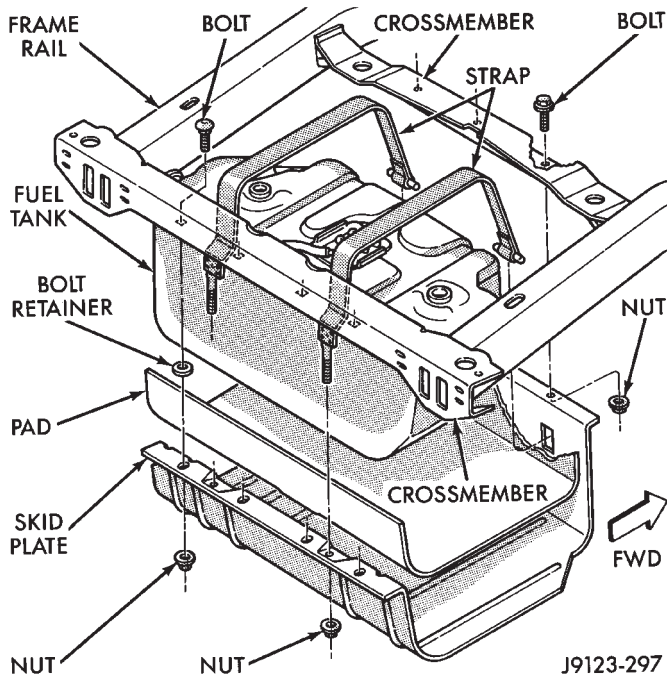

Fig. 6 Fuel Tank Skid Plate
- (1) Position a support under the fuel tank skid plate.
- (2) Remove the nuts that attach the skid plate to the straps and to the crossmembers (Fig. 6).